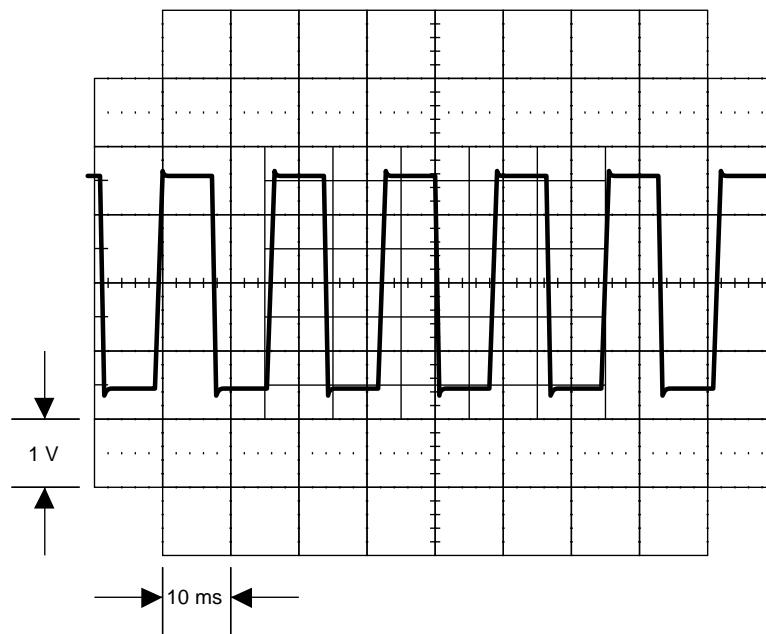

Figure 5-5. Waveform at Pin 6 of U9
11. Check the Amplitude Control Amplifier circuit. Disconnect the cable between the Wideband Oscillator assembly and Wideband Output assembly at J1 on the Wideband Output assembly. Set the 5700A to 1V at 1.2 MHz, operate. Connect an oscilloscope set for ac coupling to pin 6 of U9 and verify it displays a signal similar to Figure 5-5. If a failure is detected, check U9 and its associated components in the Amplitude Control Amplifier circuit.
12. Check the X10 Wideband Amplifier circuit. Disconnect the cable between the Wideband Oscillator assembly and Wideband Output assembly at J1 on the Wideband Output assembly. Set the 5700A to 1V at 1.2 MHz, operate. Connect an oscilloscope set for ac coupling to TP13 and verify it displays a signal similar to Figure 5-5, but approximately 10 times larger in amplitude. If a failure is detected, check Q4, Q5, Q6, and associated components in the X10 Wideband Amplifier circuit.